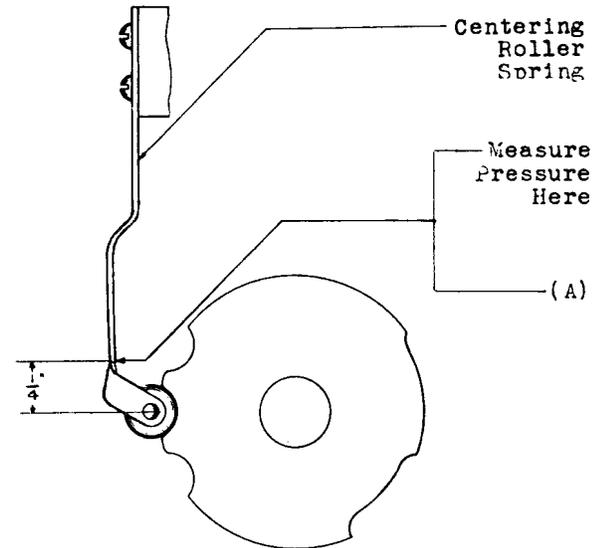

Fig. 16
2.13 Pressure of the Centering Roller Spring (189 Type Switch Only) - Fig. 16 (A) - The pressure of the centering roller spring measured at a point 1/4" back from the center of the roller when the switch is in the normal position shall be